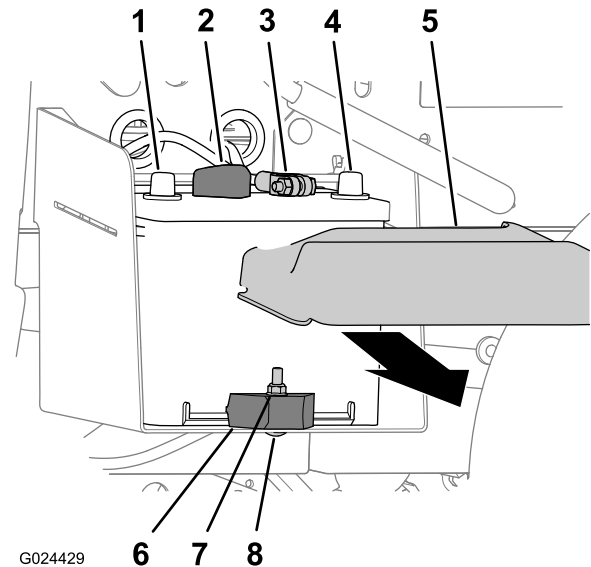

Figure 47
1. Squeeze the sides of the battery cover and remove the cover from the top of the battery (Figure 47).
2. Disconnect the negative battery cable from the terminal of the battery (Figure 47).
3. Disconnect the positive battery cable from the terminal of the battery (Figure 47).
2. Remove the locknut, carriage bolt, and battery clamp that secures the battery to the battery tray (Figure 47).
3. Remove the battery from the battery tray (Figure 47).
1. Align the battery to the battery tray of the machine (Figure 47).
Note: Ensure that the positive and negative posts of the battery are aligned as shown in Figure 47.
2. Secure the battery to the battery tray with the battery clamp, carriage bolt, and locknut (Figure 47).
1. Connect the positive battery cable to the terminal of the battery (Figure 47).
2. Connect the negative battery cable to the terminal of the battery (Figure 47).
3. Install the battery cover onto the top of the battery (Figure 47).